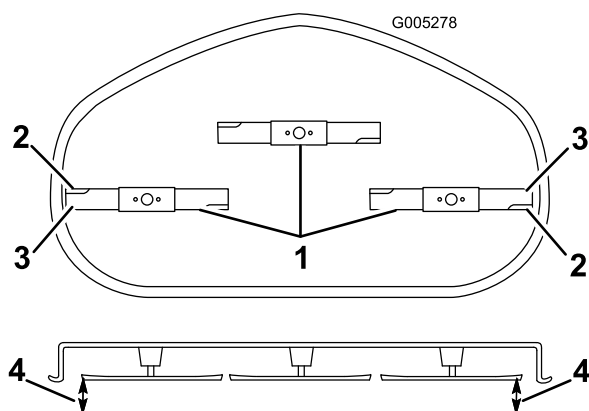

Figure 41
- Carefully rotate the blade(s) side to side (Figure 41). Measure between the outside cutting edges and the flat surface (Figure 41). If both measurements are not within 3/16 inch (5 mm), an adjustment is required; continue with this procedure.
- Measure between the outside cutting edges and the flat surface (Figure 41). If both measurements are not within 3/16 inch (5 mm), an adjustment is required; continue with this procedure.